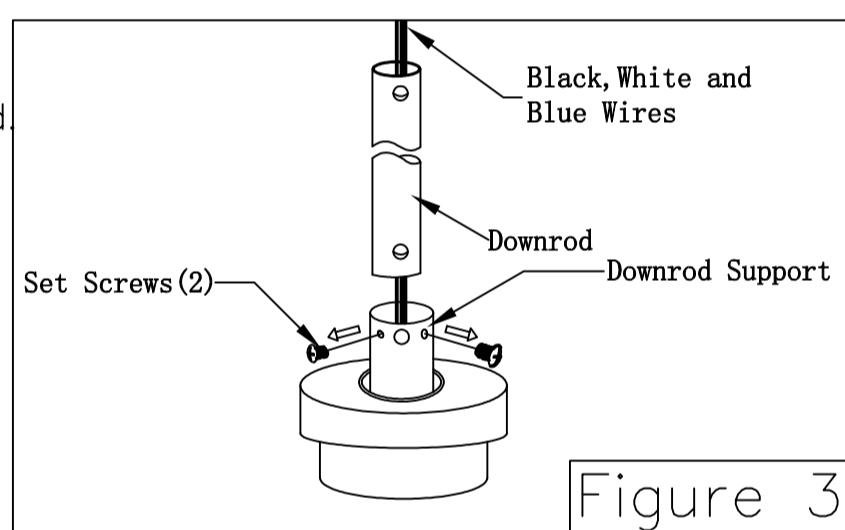

Figure 3
□ Loosen the two set screws in the down rod support of the motor assembly. Route the black, white and blue wires through the down rod. (Figure 3)